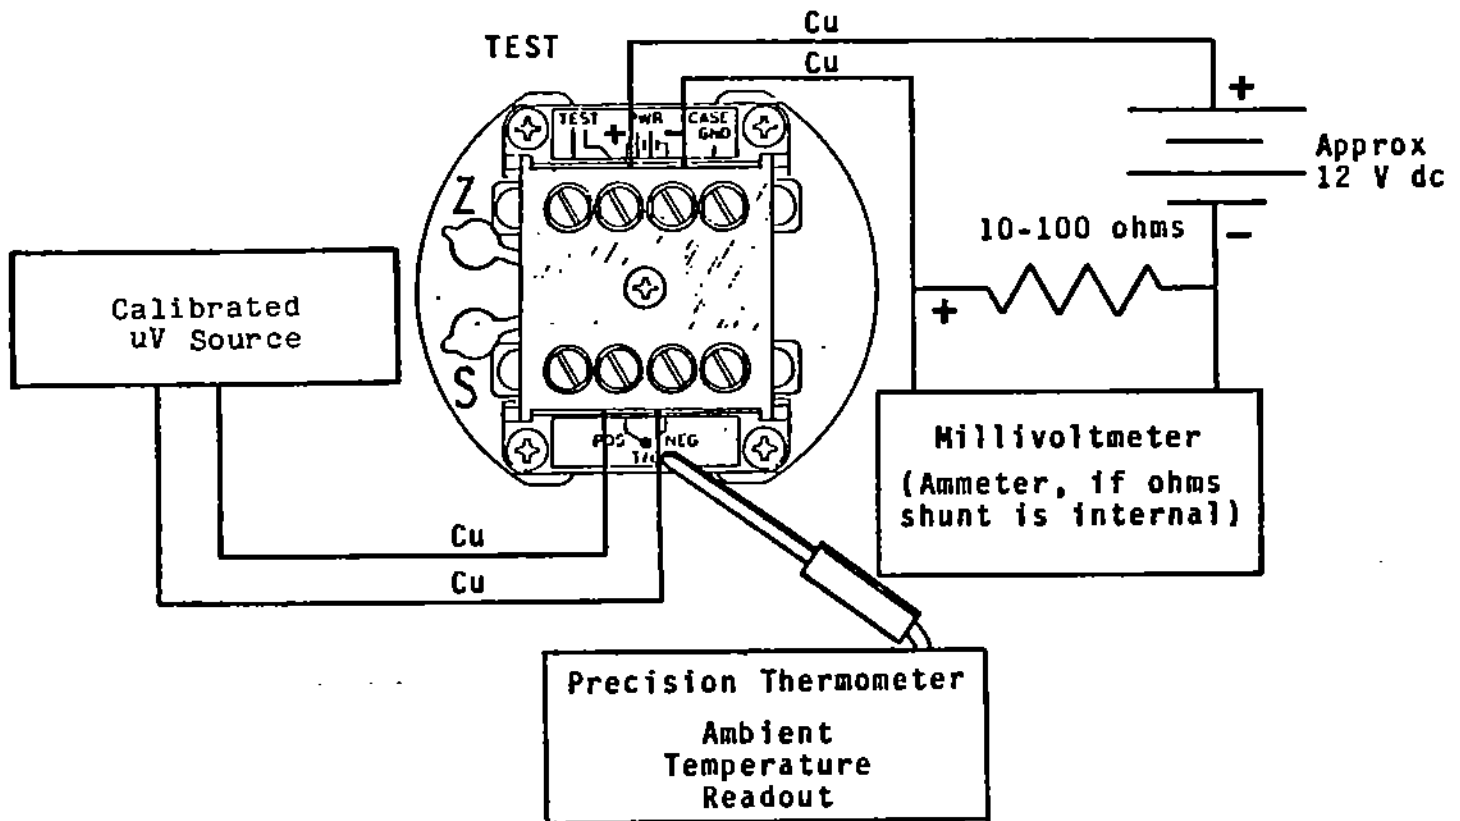

Figure 5-1 Calibration Setup Using Ambient Temperature
5. Refer to Figure 5-1 and connect the transmitter to the power supply, microvolt source, current shunt, and milliammeter. Place the temperature probe as close as possible to the 502A-T input terminals. Better calibration stability is obtained if the electronic assembly is configured while in the case.